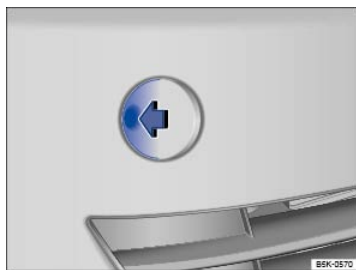

Fig. 237 In the right front bumper: Removing the cover.
- Push on the left side of the cover ⇒ Fig. 237 (arrow) so that it pops out.